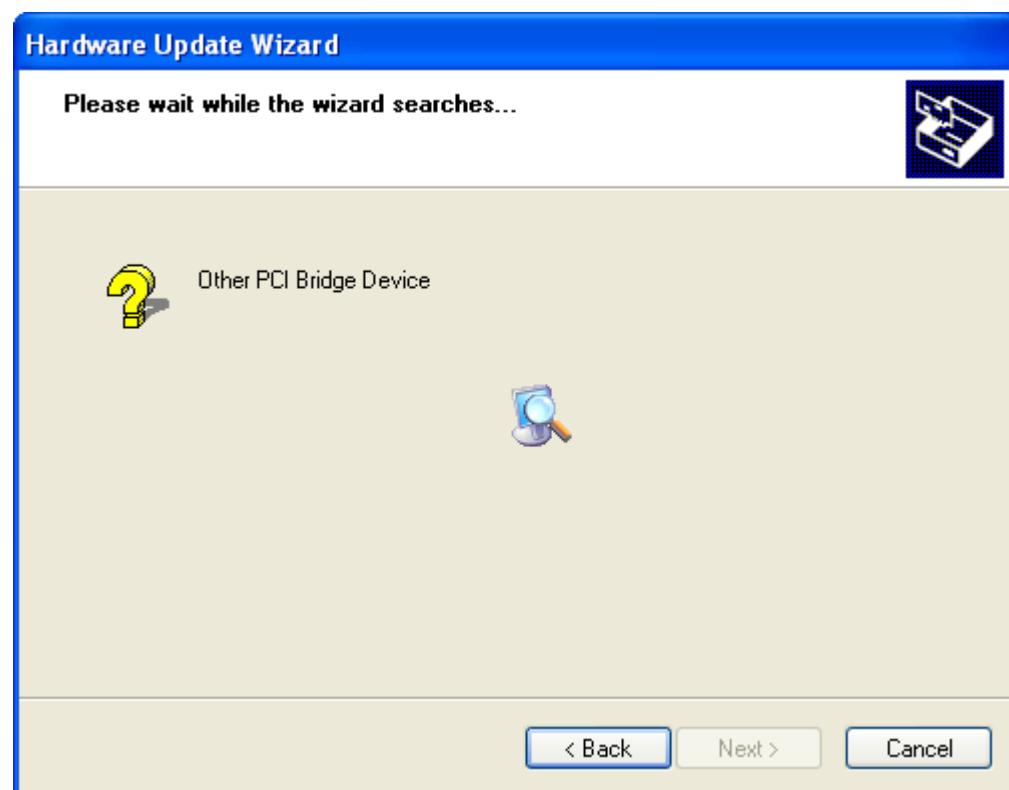

Figure 7-46: Wizard Search
Step 83: The Wizard then searches for the driver. See **Figure 7-46**.